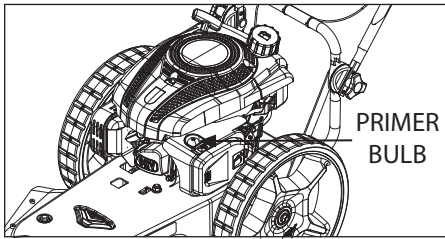

FIGURE 6: Primer Bulb Location.
1. Push the primer bulb three times. Wait approximately two seconds between each push. **SEE FIGURE 6**
3. To start a cold engine, push the primer bulb three times. Wait two seconds between each push of the primer bulb. **SEE FIGURE 6**